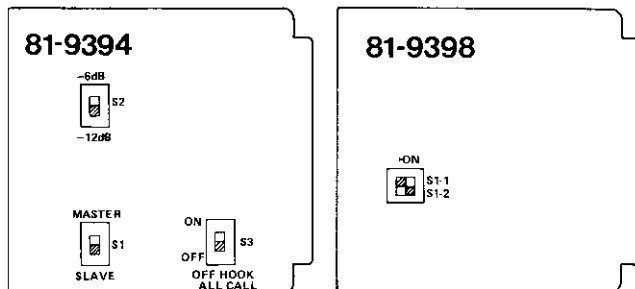

figure 6. Option switch locations
2.16 The only optioning required for the 294 System is the setting of three slide switches on the 9394 module's printed circuit board and the setting of one slide switch on the 9398 module's printed circuit board. Locations of these option switches on their modules are shown in figure 6. The 9332 module, 8108 Ringing Generators, and 8007 Power Supply have no options.